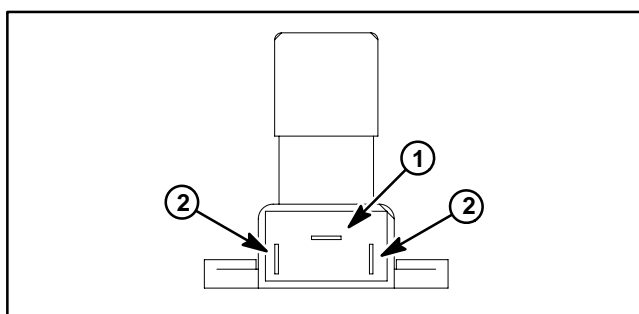

Figure 30
2. The switch terminals are shown in Figure 30. Continuity should exist between the common terminal and only one of the side terminals. When the switch is depressed, continuity should exist between the common terminal and the other side terminal. Regardless of switch position, there should never be continuity between the two side terminals.